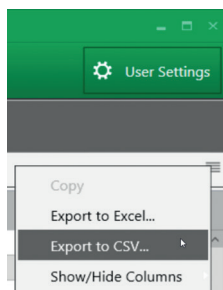

Fig. 30. Data Table dropdown menu.
- In the Data Table tab, select the dropdown menu in the upper right corner. Click **Export to CSV...** and save the exported file. Refer to Figure 30 to locate the dropdown menu.